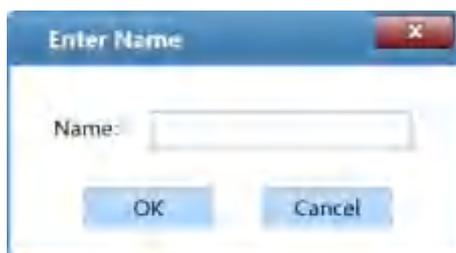

Figure D- 8.2b. Abs Quant analysis interface - Enter Name dialog box
- **< Save Std Curve >**: user can click **< Save Std Curve >** and enter a name in the enter name dialog box for the standard curve file to save; click **< OK >** to confirm, as shown in figure D-8.2b.